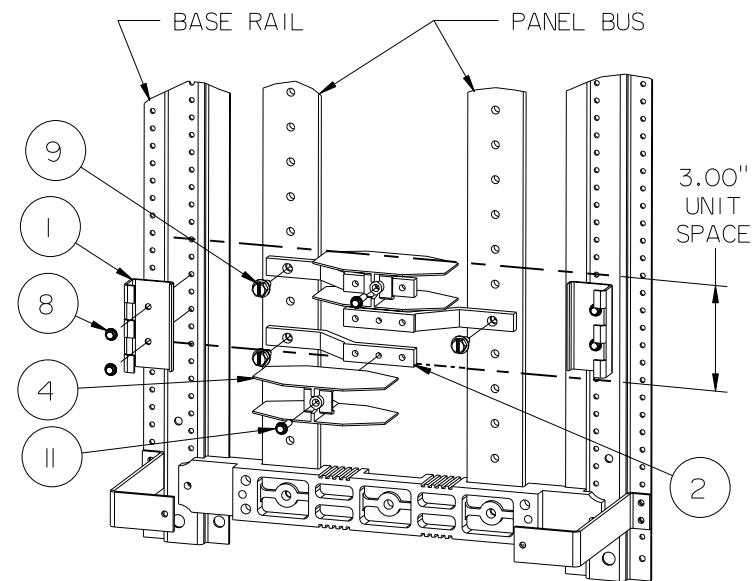

Figure 2
6. Refer to fig. 2. - Position the two breaker supports (item 1) on the base rails in the center of the 3" kit unit space as shown. Fasten them to the base rails using four 8-32 screws (item 8). Install the three outer connectors (item 2), alternating between the left and right panel bus. The left-right-left connector pattern may be reversed to continue a pattern already in place in the panel. Fasten the connectors to the panel bus with three 1/4-20 X 5/8" screws. (item 9).